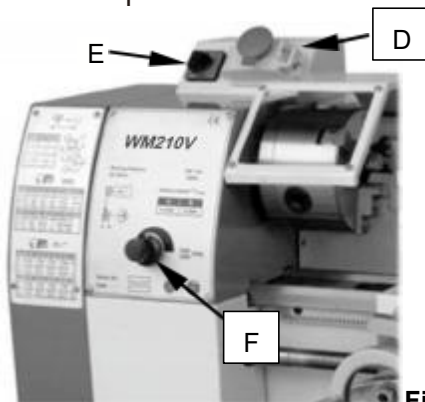

Fig.9
1. Emergency Button: 0N/OFF Switch (D, Fig. 9)
2. Change-over Switch(E, Fig. 9)
3. Variable Speed Control Switch (F, Fig. 9)